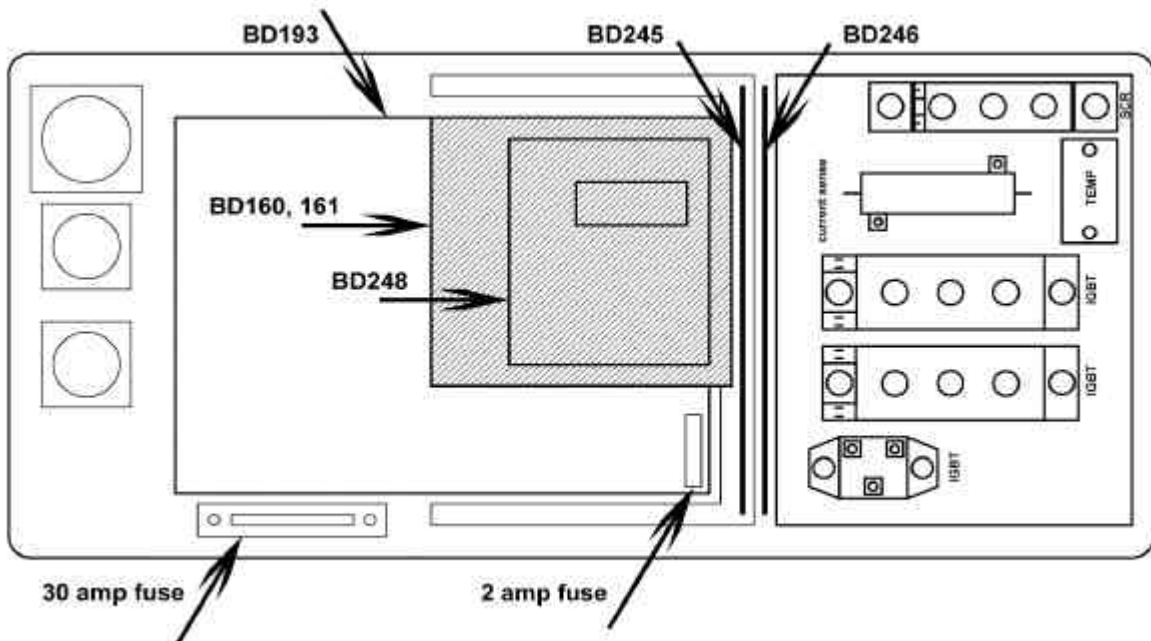

Figure 3: Board locations
- 5) No Power to output: Check 30 amp fuse on inside front panel (figure 3).
- 6) No logic power: Check that logic batteries are plugged in. Check voltage on batteries. If this is okay, check 2 amp fuse (figure 3).